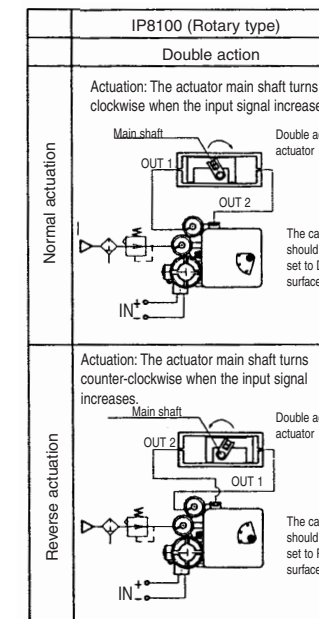

Fig.5 Direct / Reverse actuation
- Check for correct use of the cam face (normal or reverse) in Type IP8100 and that the flange nut is firmly locked. (Refer to Fig.5)